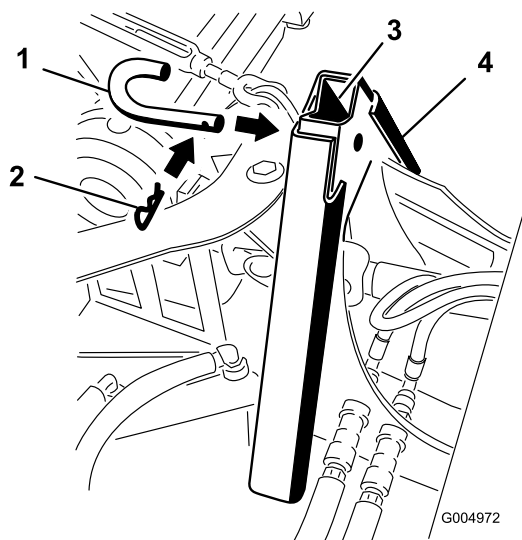

Figure 99
3. Secure the mount adapters together with the attachment pin and hairpin as shown in Figure 99.